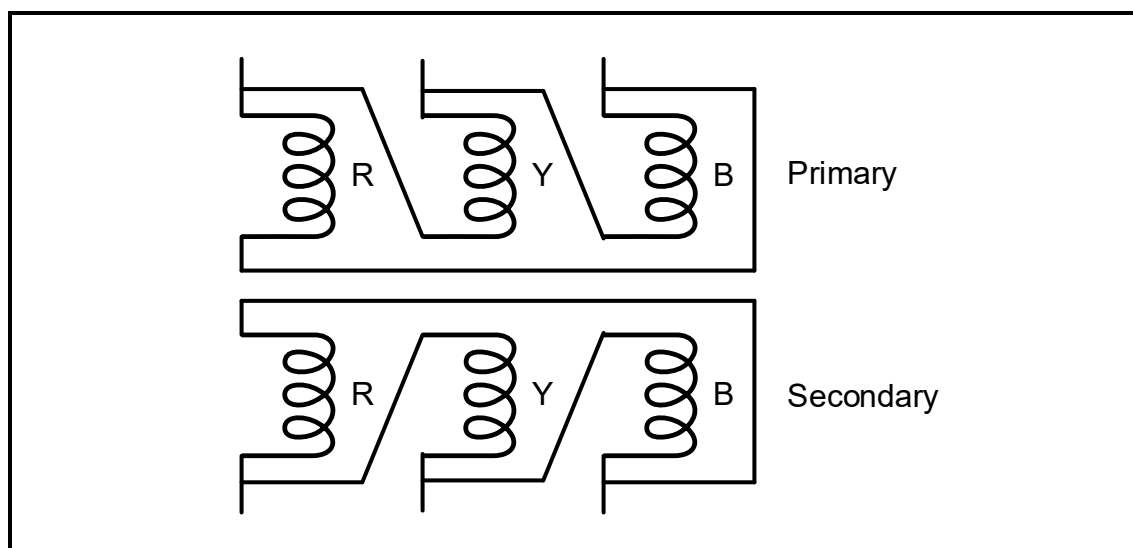

FIGURE 5.5: SINGLE-PHASE TRANSFORMERS
5.5 Refer to FIGURE 5.5 below and answer the questions that follow.
- 5.5.1 Name the configuration in which the three single-phase transformers are connected in FIGURE 5.5 above. (1)
- 5.5.2 State whether the primary or secondary windings are thicker if the transformer in FIGURE 5.5 above is a step-down transformer. Motivate why. (2)